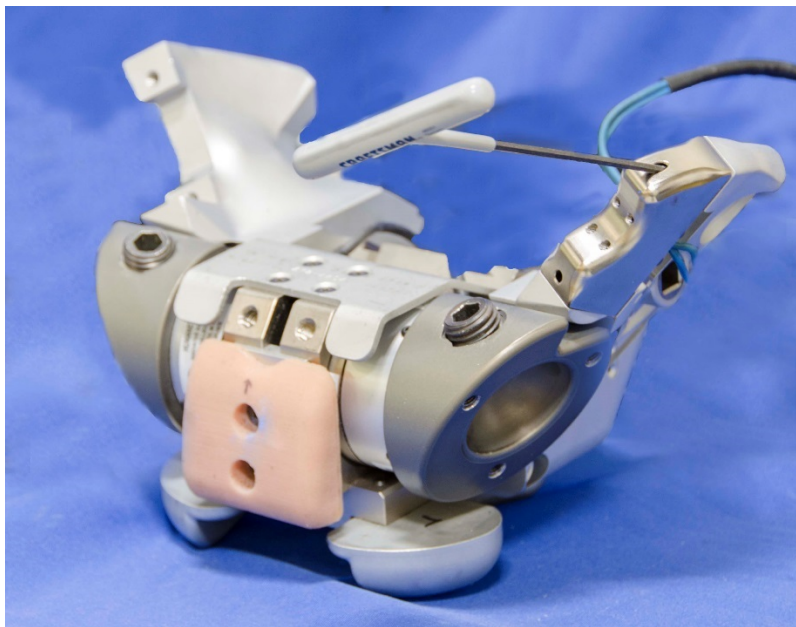

Figure 10-30. Install ASIS load cell
10.2.2.20 Position the ASIS load cell as shown in Figure 10-30 and attach it to the left iliac wing using two M5 x 16 BHCS (Figure 10-30). Repeat this procedure to attach the right side ASIS load cell to the right iliac wing.